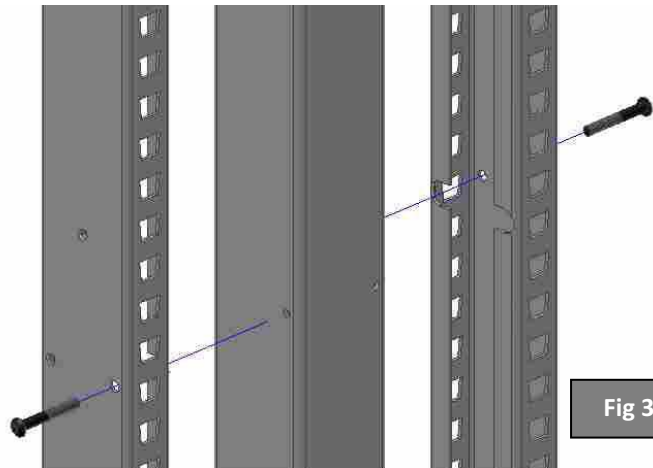

Fig 3
STEP 2 – Screw the structures to the **connecting post**. Just one **M6x45 ISO7380 Allen screw** per row and in diagonal form (Fig. 3)